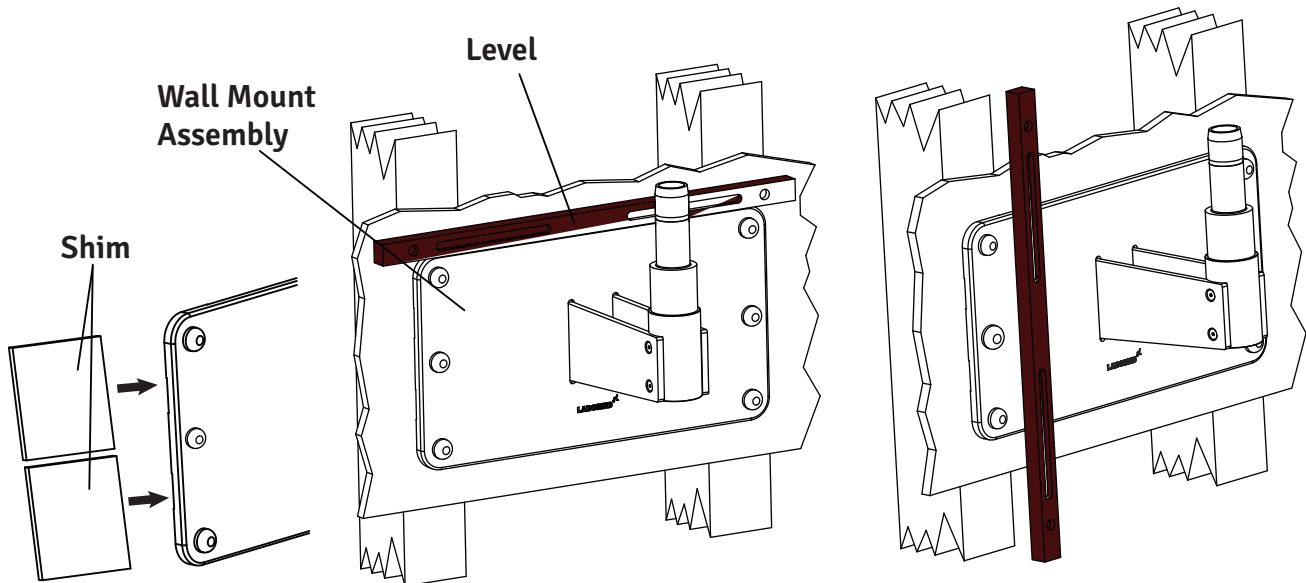

Fig . 13
2. Place a level across the top of the back plate to check the horizontal leveling. See Figure 13 .
5. Place a level vertically along the face of the wall Mount, on both sides, to ensure it is perpendicular to the floor. See Figure 13 .